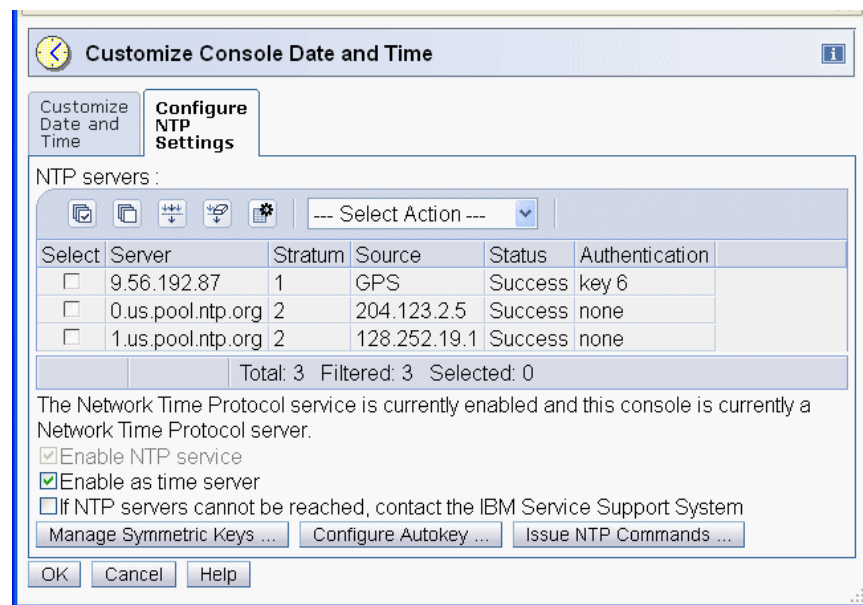

Figure 1-72 HMC NTP server example
1. If not already done, set up the target HMC to act as server. Follow the steps given in 1.2.2, “Configuring an NTP server on the HMC” on page 7. If there is another HMC that is planned to additionally provide the NTP server function, perform the same steps for that HMC. An example is shown in Figure 1-72.